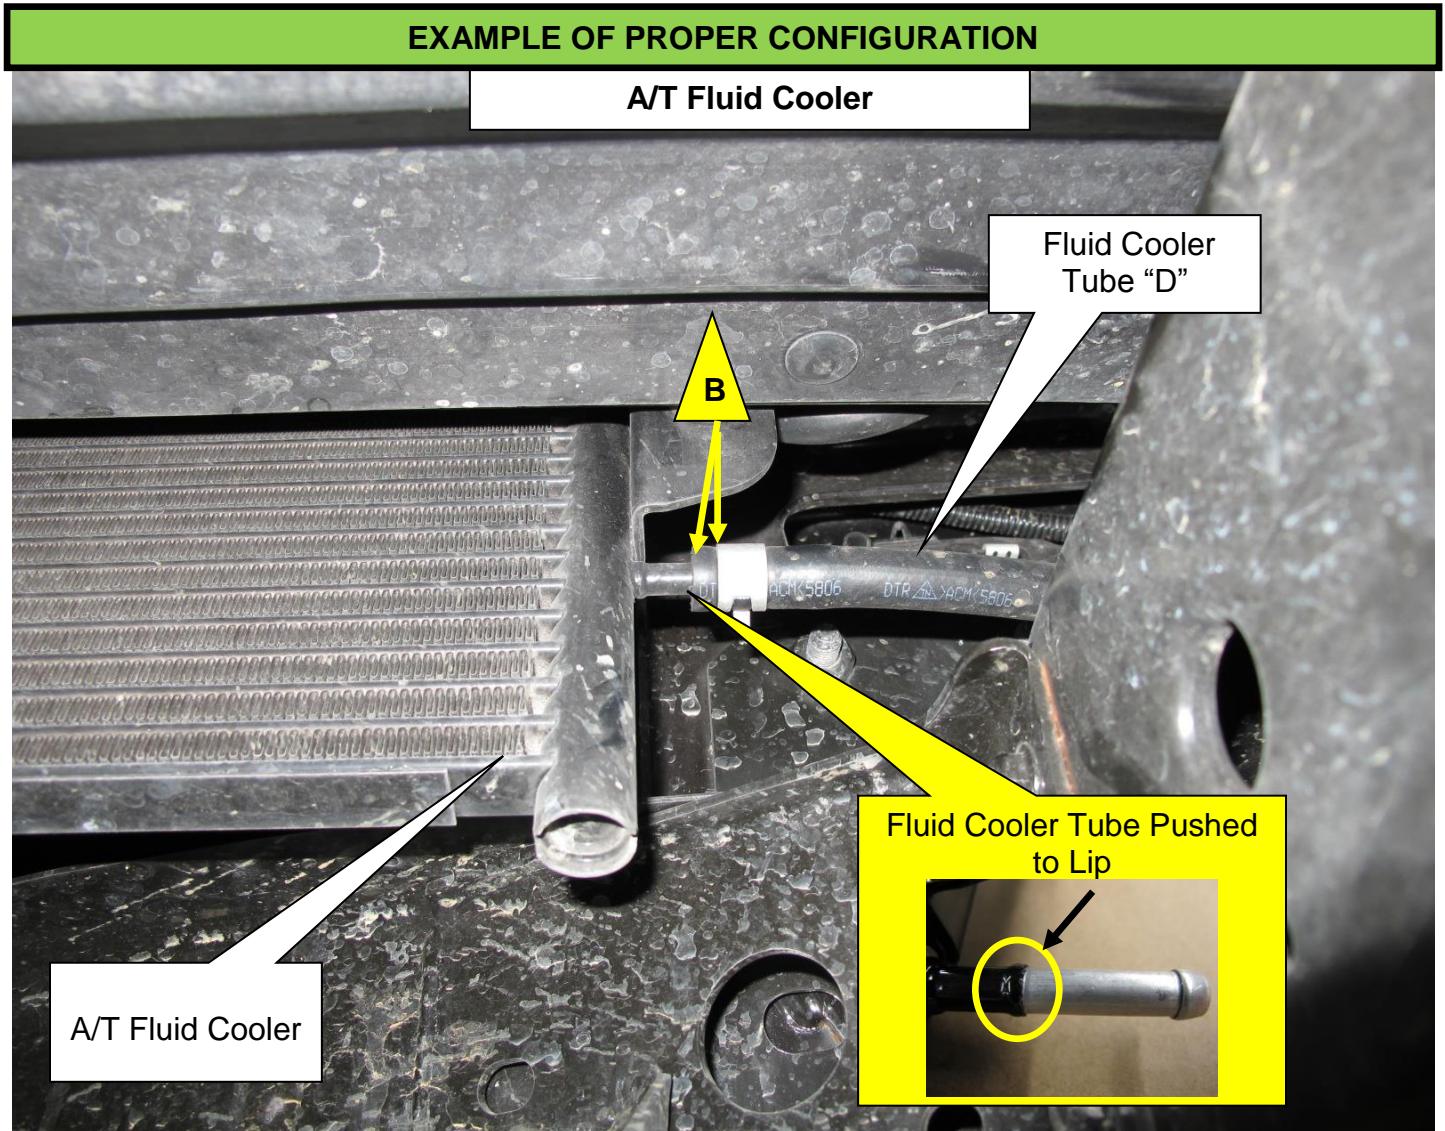

Figure 13
11. Inspect fluid cooler tube "D" for proper configuration (Figure 13).
13. CORRECT A/T FLUID COOLER HOSE IF NOT PROPERLY INSTALLED, REFERENCE STEP 11 (FIGURE 13).